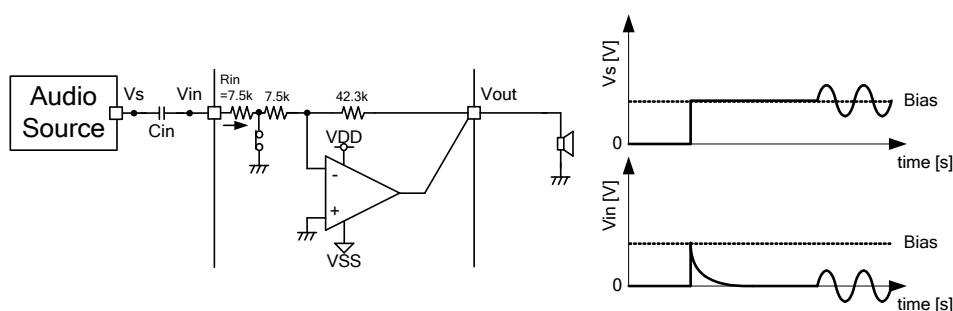

Figure 31. Fluctuation of input terminal voltage when charging input coupling capacitor
① The term from "PVDD, SVDD : ON" to "shutdown ON->OFF"
When power supply (PVDD, SVDD) is applied, it is started that charging input coupling capacitors. Therefore, the input terminal voltage "Vin" is changed as following Figure 31. Time constant " τ " of charging input coupling capacitor is decided by input coupling capacitor C_{in} and Internal input impedance R_{in} (See formula (1)). Internal impedance R_{in} in term of shutdown is 7.5k Ω (typ) for making time constant τ shorten. If "SDB" is changed "L" to "H" (shutdown ON -> OFF) during input DC voltage (V_{in}) is changing, pop noise may occur. It is recommended that shutdown ON -> OFF ("SDB" : L -> H) after $5\tau \sim 6\tau$.